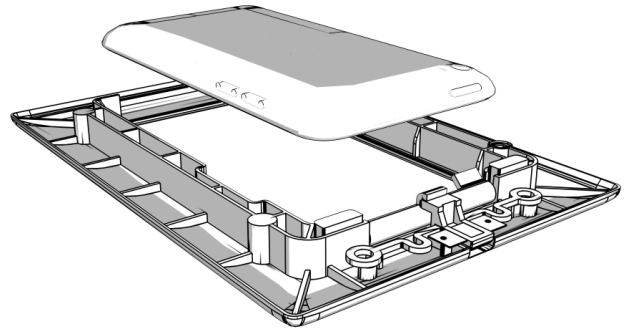

Figure 6: Insert iPod into Fascia
11. Place iPod touch into Fascia. Allign power button on iPod with Power Button on Fascia. See Figure 6